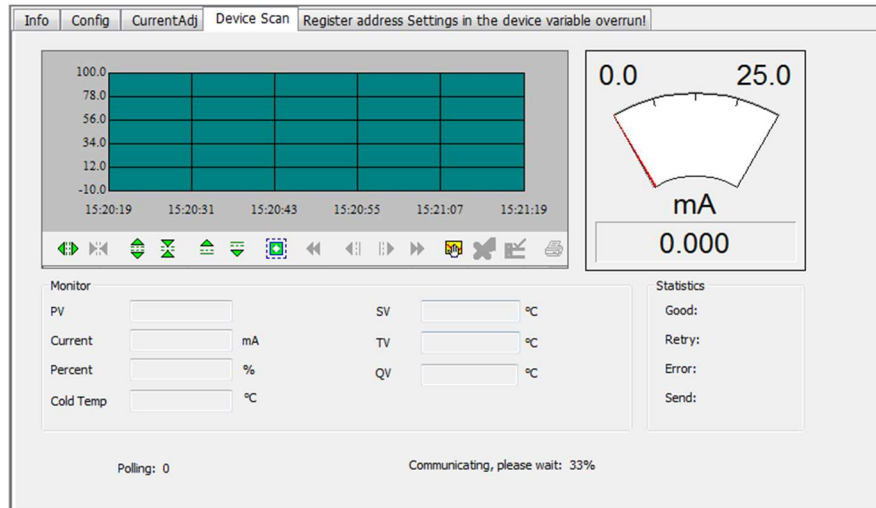

Figure 5.23 Variable Monitoring tab
- (1) Left-click on an online device in the network view, and the right tab view displays the tabs associated with the device.
- (2) Click “variable Monitoring” in the right tab view, as shown in Figure 5.23.错误!未找到引用源。